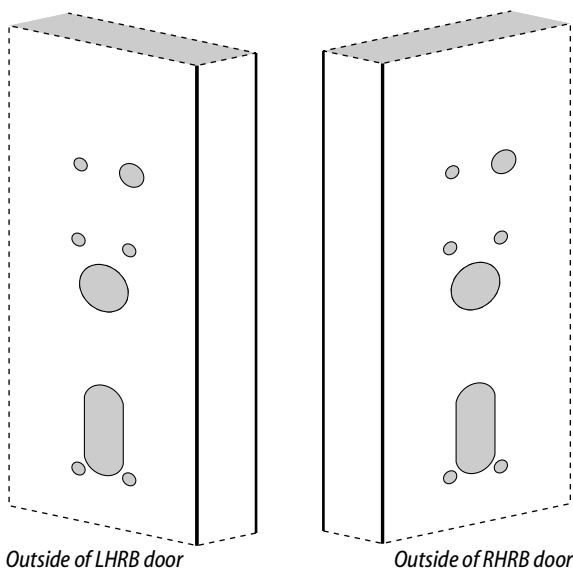
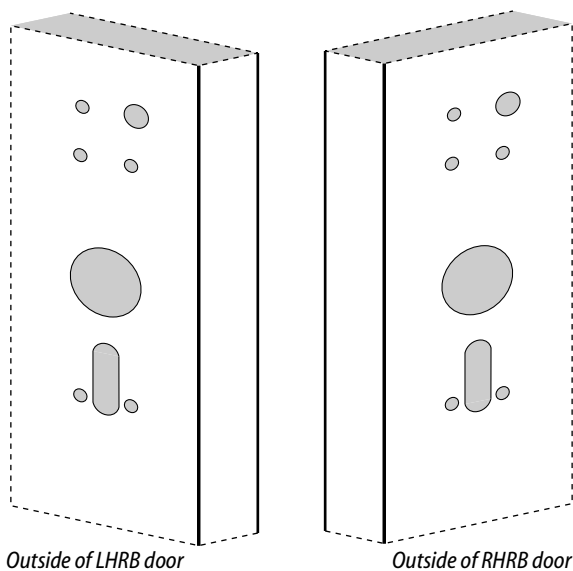
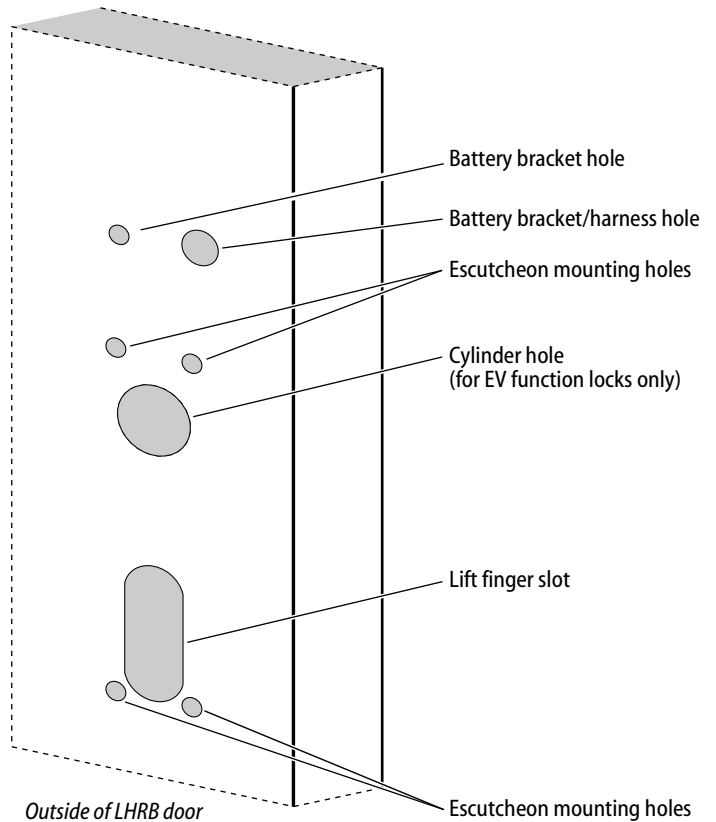

Figure 2 Drilling the trim holes for use with Precision Hardware exit hardware
Figure 3 Drilling the trim holes for use with Von Duprin exit hardware
Figure 4 Trim hole guide—Precision Hardware door preparation shown
- 1 Drill the trim holes listed below; follow the instructions on the trim template. See Figure 2 or Figure 3, and Figure 4.